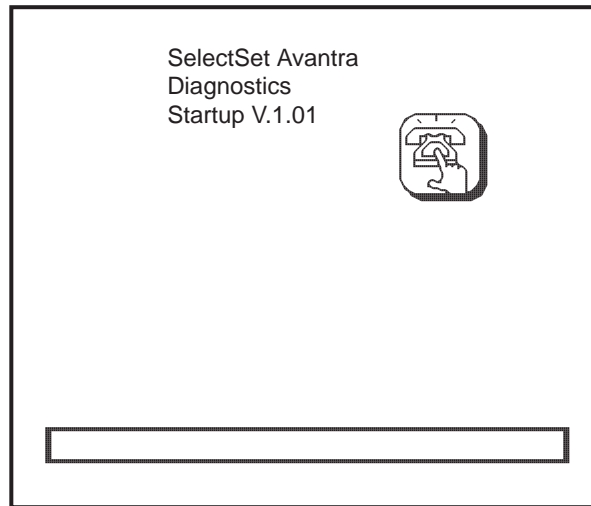

Figure 1-19 Automatic dial-out sequence icon.
- Power cycle the system. As the system boots, an icon appears on the control panel as shown in Figure 1-19. Press the icon. This initiates an automatic dial-out sequence to the Remote Diagnostic Center.